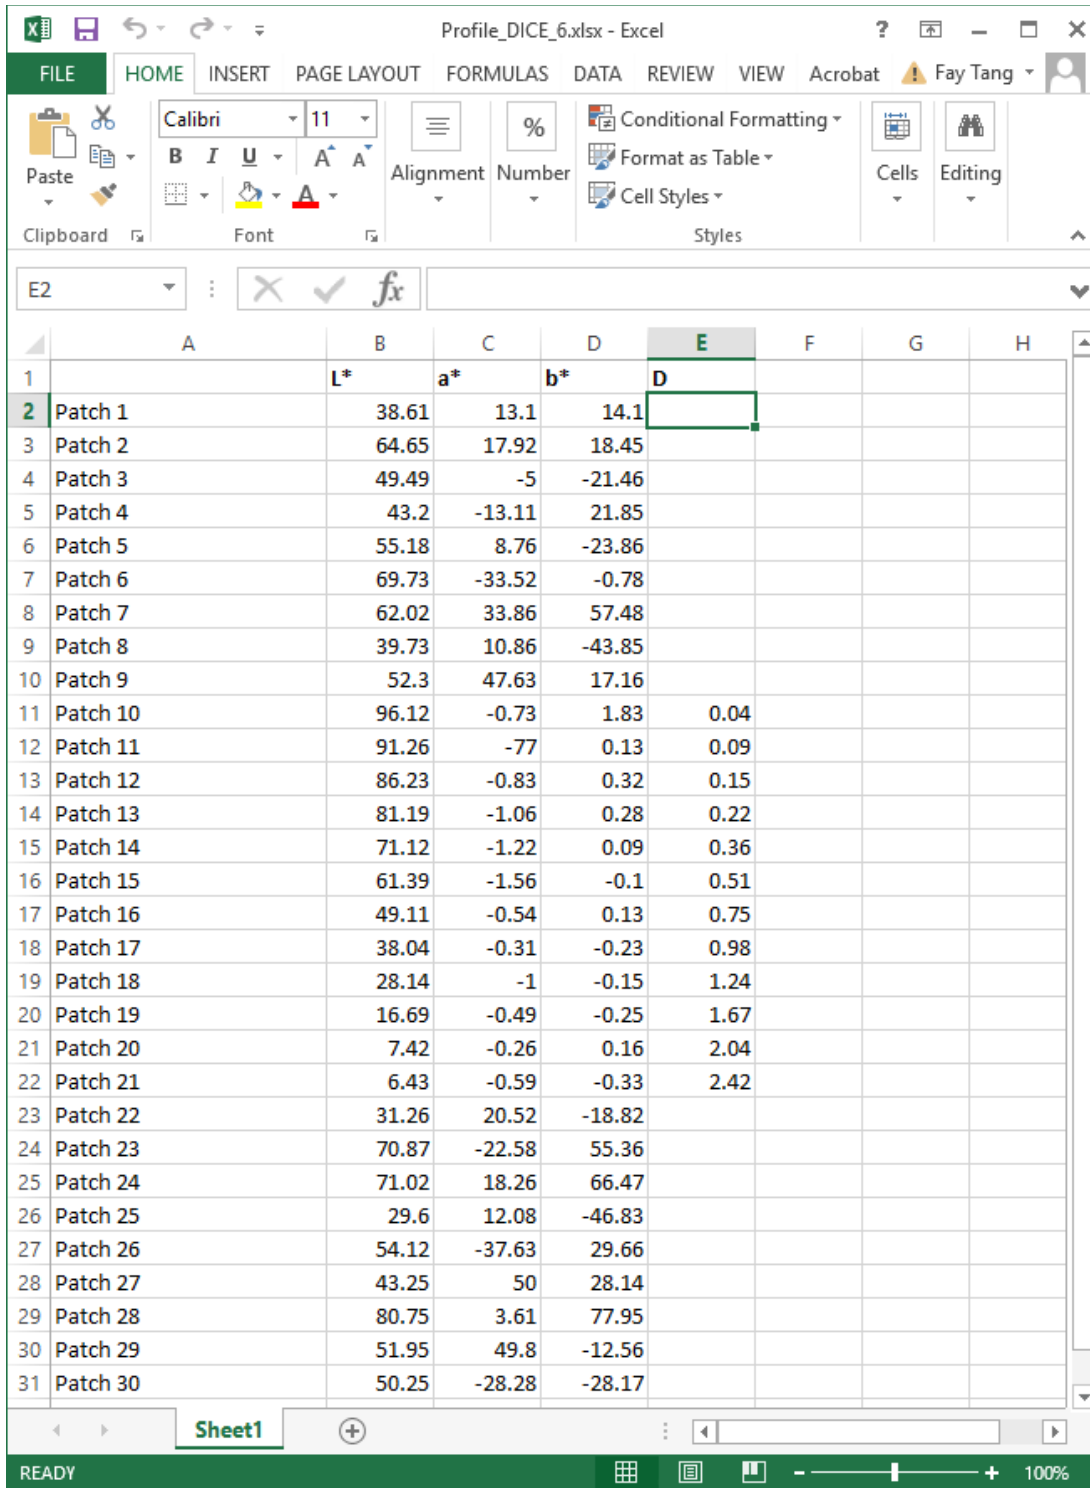
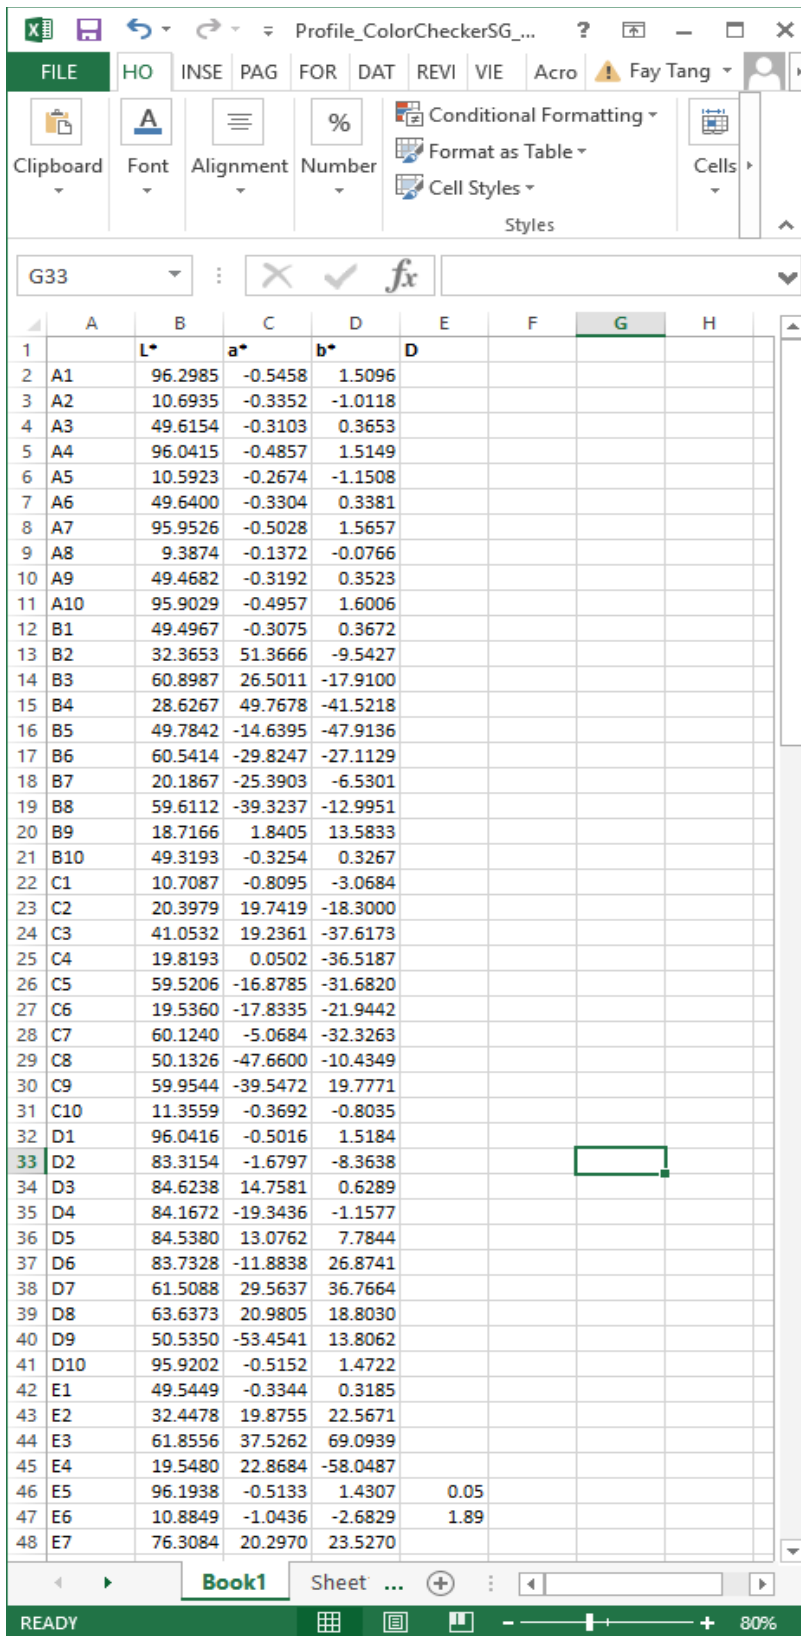

Figure 3. DICE target profile with the L*a*b* and density (D) measurements
Figure 4. Colorchecker SG target profile with the L*a*b* and density (D) measurements
3. (1). User will load the profile first according to the target selection. It should be an Excel file, with the measurements as the ground truth for color accuracy assessment ($L^*a^*b^*$) and tonescale analysis (density), respectively. For example, a DICE profile and a Colorchecker SG profile are shown in Figure 3 and Figure 4.